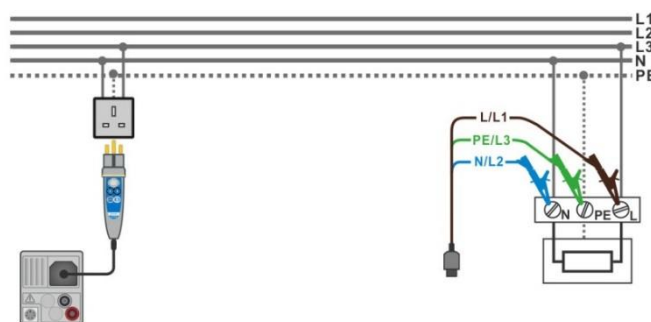

Figure 7.108: AUTO TN measurement
- Connect test leads or Plug commander to the object under test, see **Figure 7.108**.